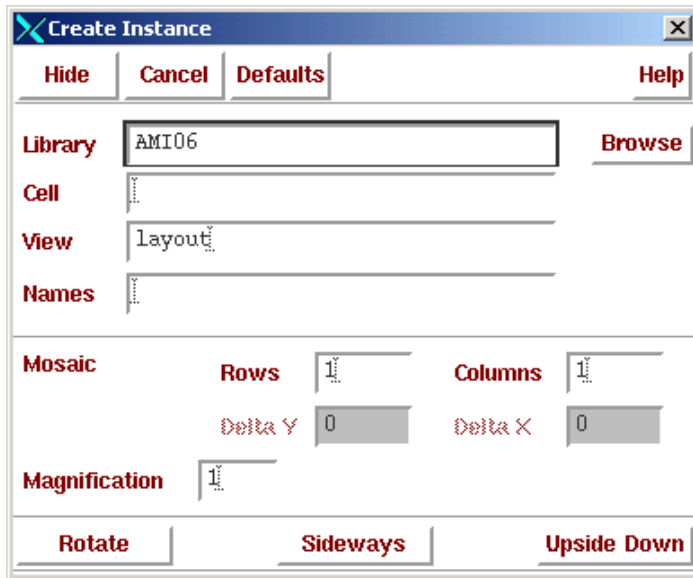

Figure 66: Create Instance Pop-Up.
2. Press i to bring up the Create Instance pop-up (Figure 66).